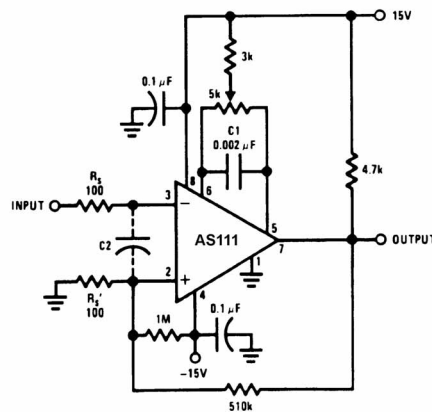

FIGURE 2. Conventional Positive Feedback
6. It is a standard procedure to use hysteresis (positive feedback) around a comparator, to prevent oscillation, and to avoid excessive noise on the output because the comparator is a good amplifier for its own noise. In the circuit of Figure 2, the feedback from the output to the positive input will cause about 3 mV of hysteresis. However, if R_S is larger than $100\text{ }\Omega$, such as $50\text{ k}\Omega$, it would not be reasonable to simply increase the value of the positive feedback resistor above $510\text{ k}\Omega$. The circuit of Figure 3 could be used, but it is rather awkward. See the notes in paragraph 7 below.